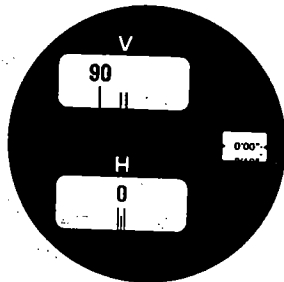

Fig. 25
- Set the SDM3E at $0^{\circ}0'00''$ as in 2) a. to c. above, Fig. 25.